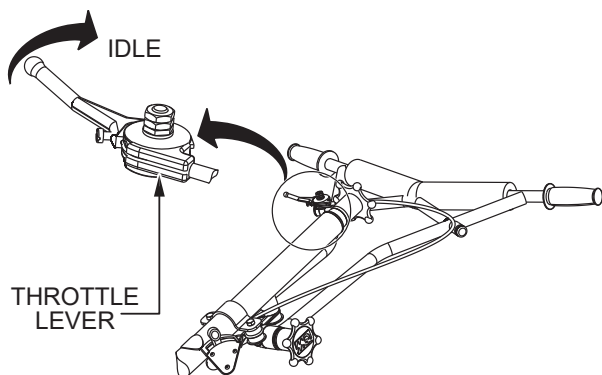

Figure 46. Throttle Lever (Idle)
1. Return the throttle lever to the **IDLE** position (Figure 46) and let the engine run for three minutes at low speed.